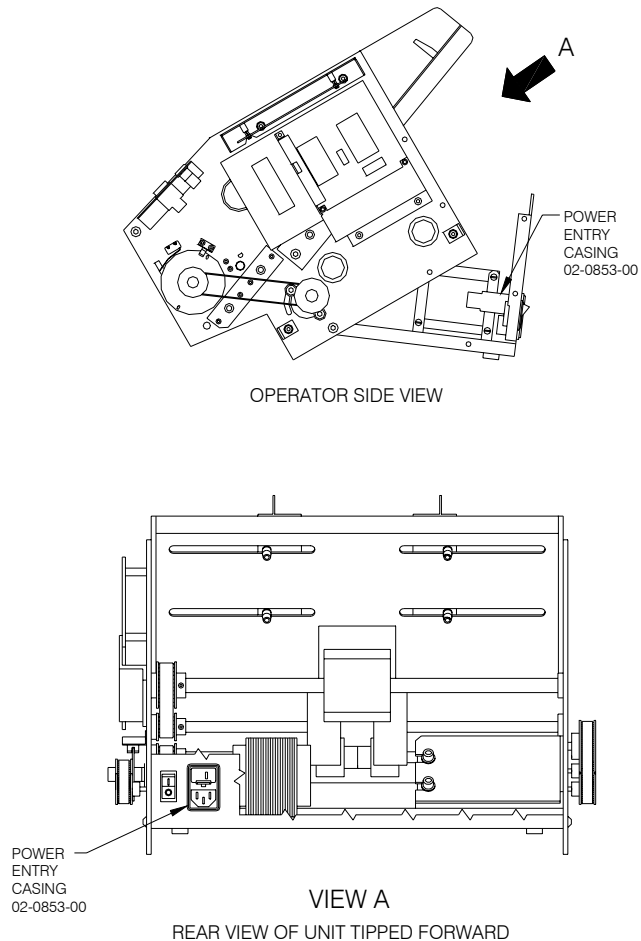

Figure 7.19 -- Replacing the Power Entry Casing
2. Unplug the CONNECTORS from the POWER ENTRY CASING. (Refer to **Figure 7.19.**)